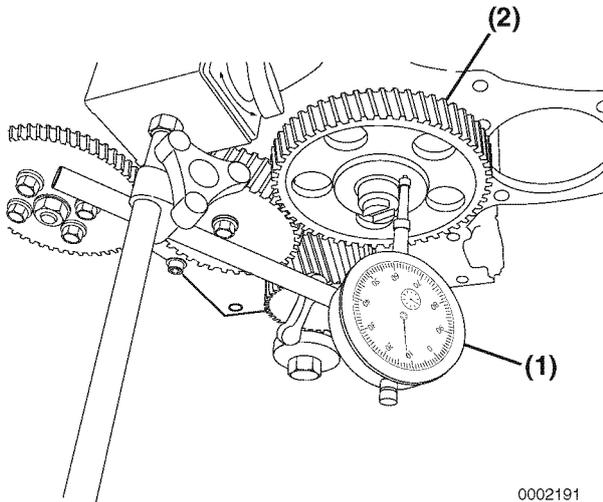

Figure 6-46
- **Method A:** Install a dial indicator (**Figure 6-46, (1)**) on the cylinder block. Move the camshaft and gear (**Figure 6-46, (2)**) in and out to measure the end play. Record the measurement. See *Camshaft* on page 6-6 for the service limit.